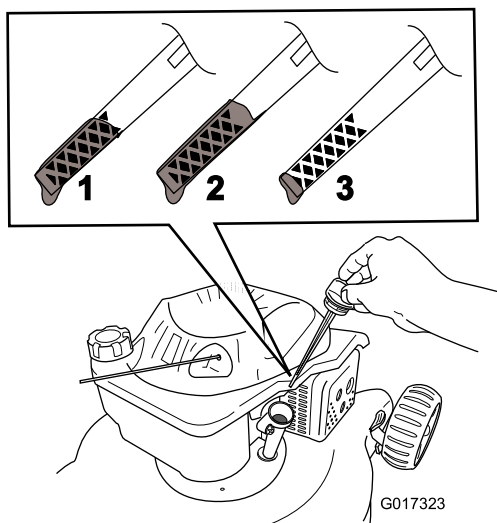

Figure 11
5. Remove the dipstick and read the oil level; refer to Figure 11.
2. Remove the dipstick (Figure 11).